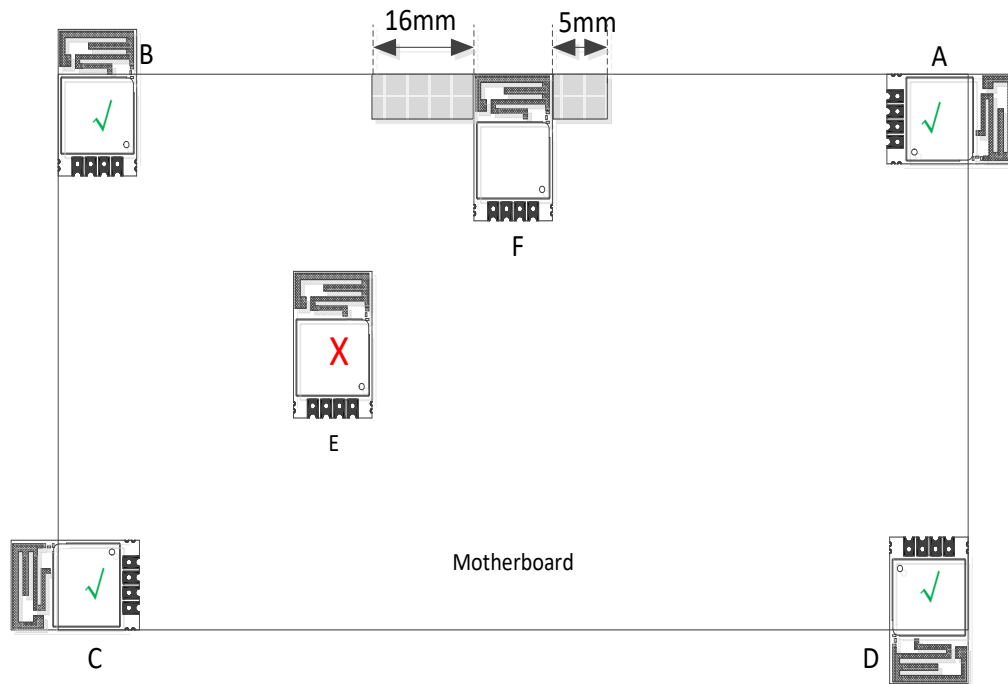

Figure 12: Module placement position
- 1) The module is placed at the corner or edge of the motherboard PCB board, and the PCB antenna is suspended. The radiation side of the antenna is completely open, and the signal is not affected by obstruction. As shown in Figure 12, points A, B, C, and D are the preferred recommended placement locations.
- 2) If the above placement conditions cannot be met, the module should be placed on the edge of the board as much as possible. The area below the PCB antenna, 16mm on the radiation side, and 5mm near the feed point should be clear on the motherboard to ensure that the antenna signal is not affected as much as possible, as shown in Figure 12, where point F is placed.